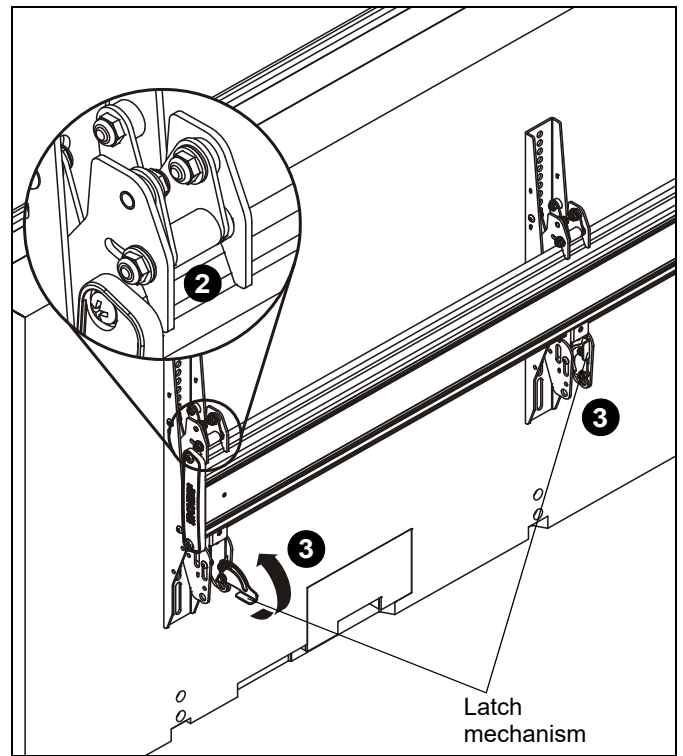

Figure 10
- While supporting both sides of display, lower display onto one side of ceiling mount, hooking top of interface brackets onto front of ceiling mount. (See Figure 10)
- Raise the latch mechanism on both interface brackets to lock bracket in place. (See Figure 10)
6. While supporting both sides of second display, lower second display onto other end of ceiling mount, hooking top of interface brackets onto front of ceiling mount. (See Figure 10)